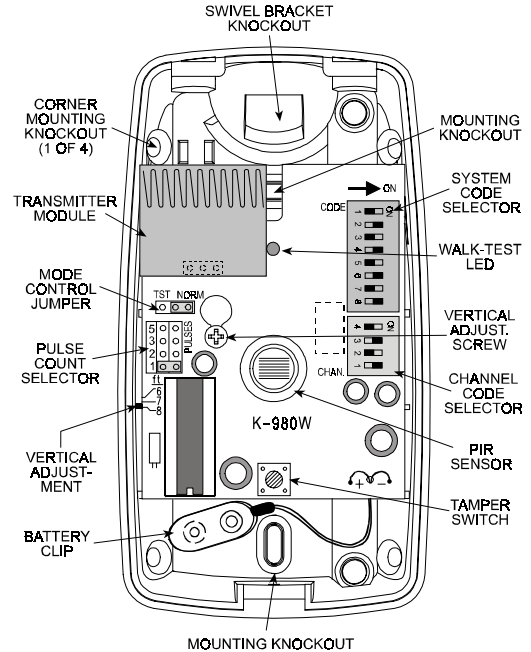
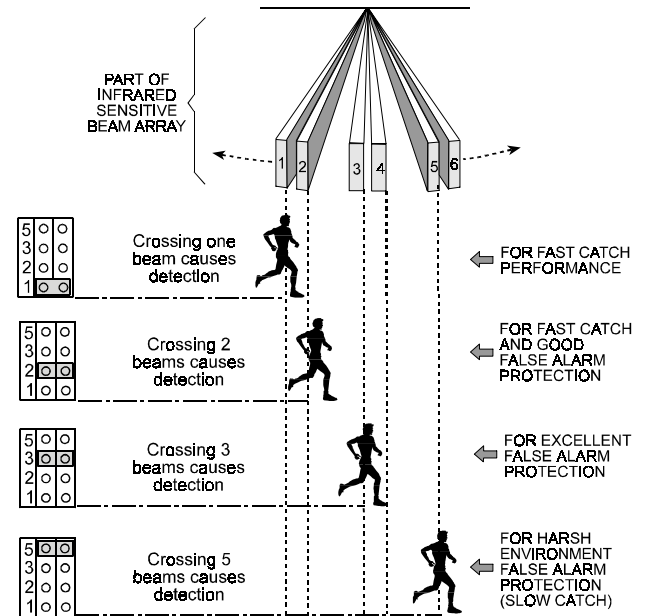

Figure 4. Inside View
Figure 10. Pulse Counter Setting Options
- B. Loosen the vertical adjustment screw, slide the PCB down and remove it via the "keyhole" (see Figure 4).
- D. Refer to Figure 4 and punch out the mounting knockouts at the rear wall of the base (for surface mounting) or mounting
The location of the pulse count selector is indicated in Figure 4. Refer to Figure 10 below and mount the jumper as desired.